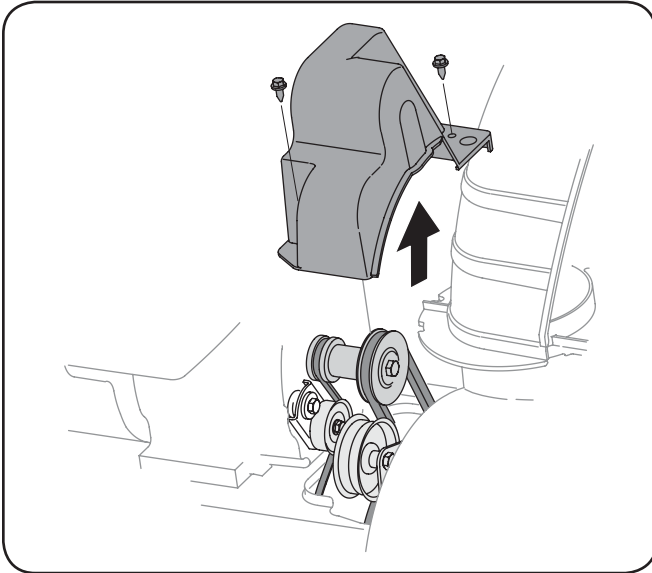

Figure 7-1
2. Remove the plastic belt cover on the front of the engine by removing the two self-tapping screws. See Fig. 7-1.
- Remove the plastic belt cover on the front of the engine by removing the two self-tapping screws. Refer to Fig. 7-1.